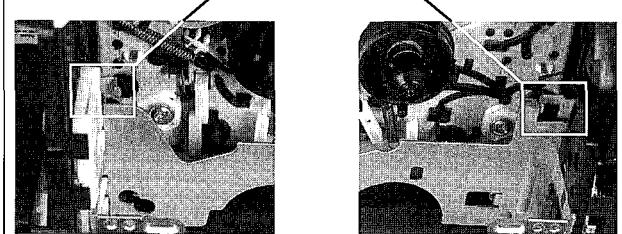
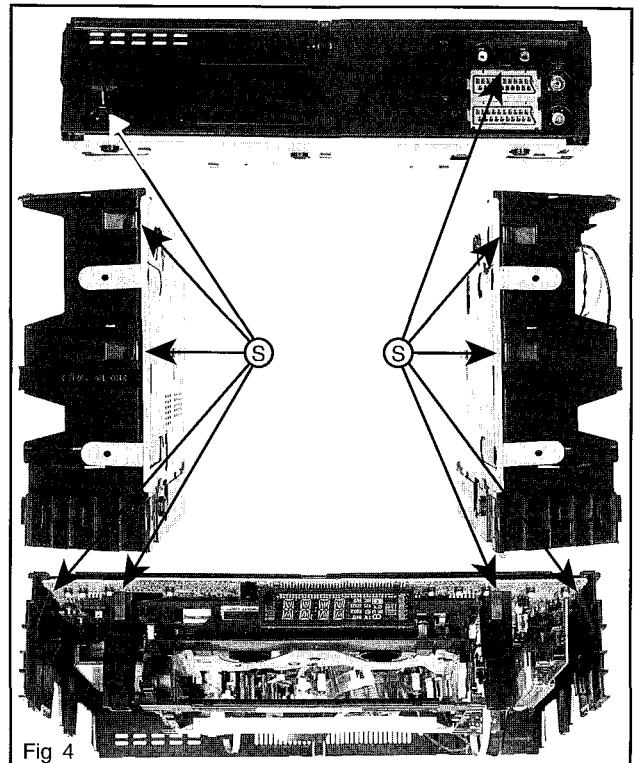
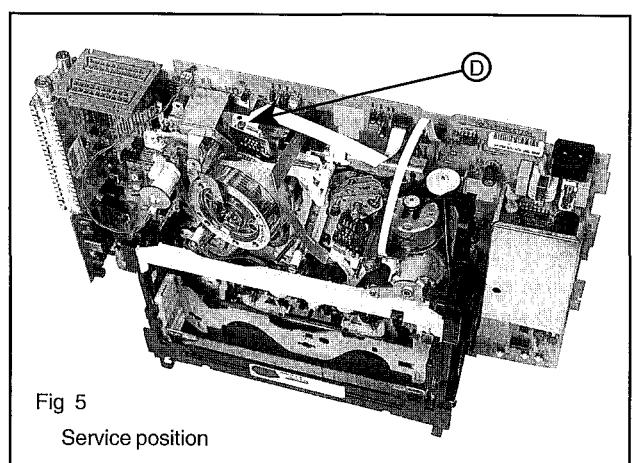
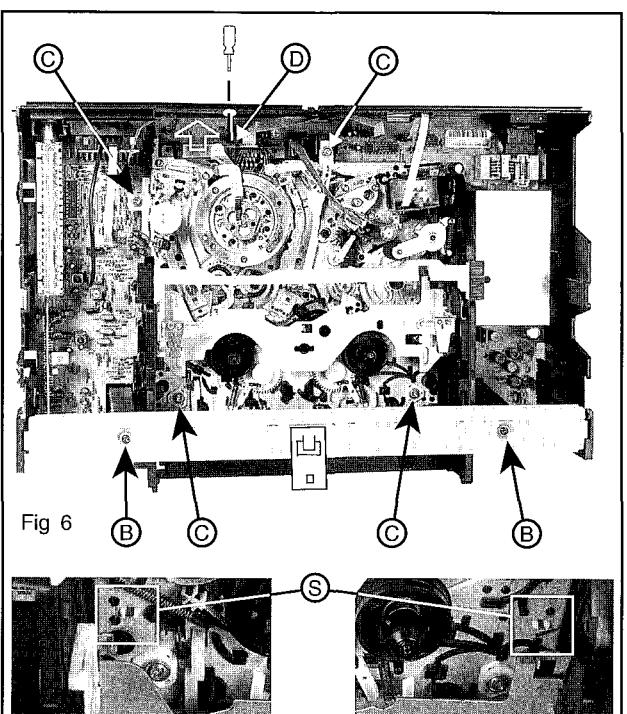

Fig. 3
Fig. 4
Fig. 5
Fig. 6
4. Dismantling of the motherboard/drive combination (Fig. 3) (Fig. 4)
- Move device into operational position (Fig. 3).
- Undo the two screws (B) of the stay and pull it up to remove it
- Undo and remove the four fastening screws (C) of the drive
- Detach the Cinch socket cable (K) and ground cable (M) from the socket print (if present)
- Undo the 10 catches (S) from the rear right to the rear front and then from the rear left to the front left
- After the weight of the motherboard/drive unit has released it from the frame, the catch (S) at the mains socket has to be released for a second time
- Turn the motherboard/drive unit and move it into the service position (Fig 5), if necessary
- Check that all 10 catches (S) are engaged
- Secure the drive with the four holding screws (C)
- Push the stay onto the frame with the chamfered side facing to the rear and secure with both screws (B)
5. Dismantling the drive (Fig. 3)(Fig. 5)(Fig. 6)